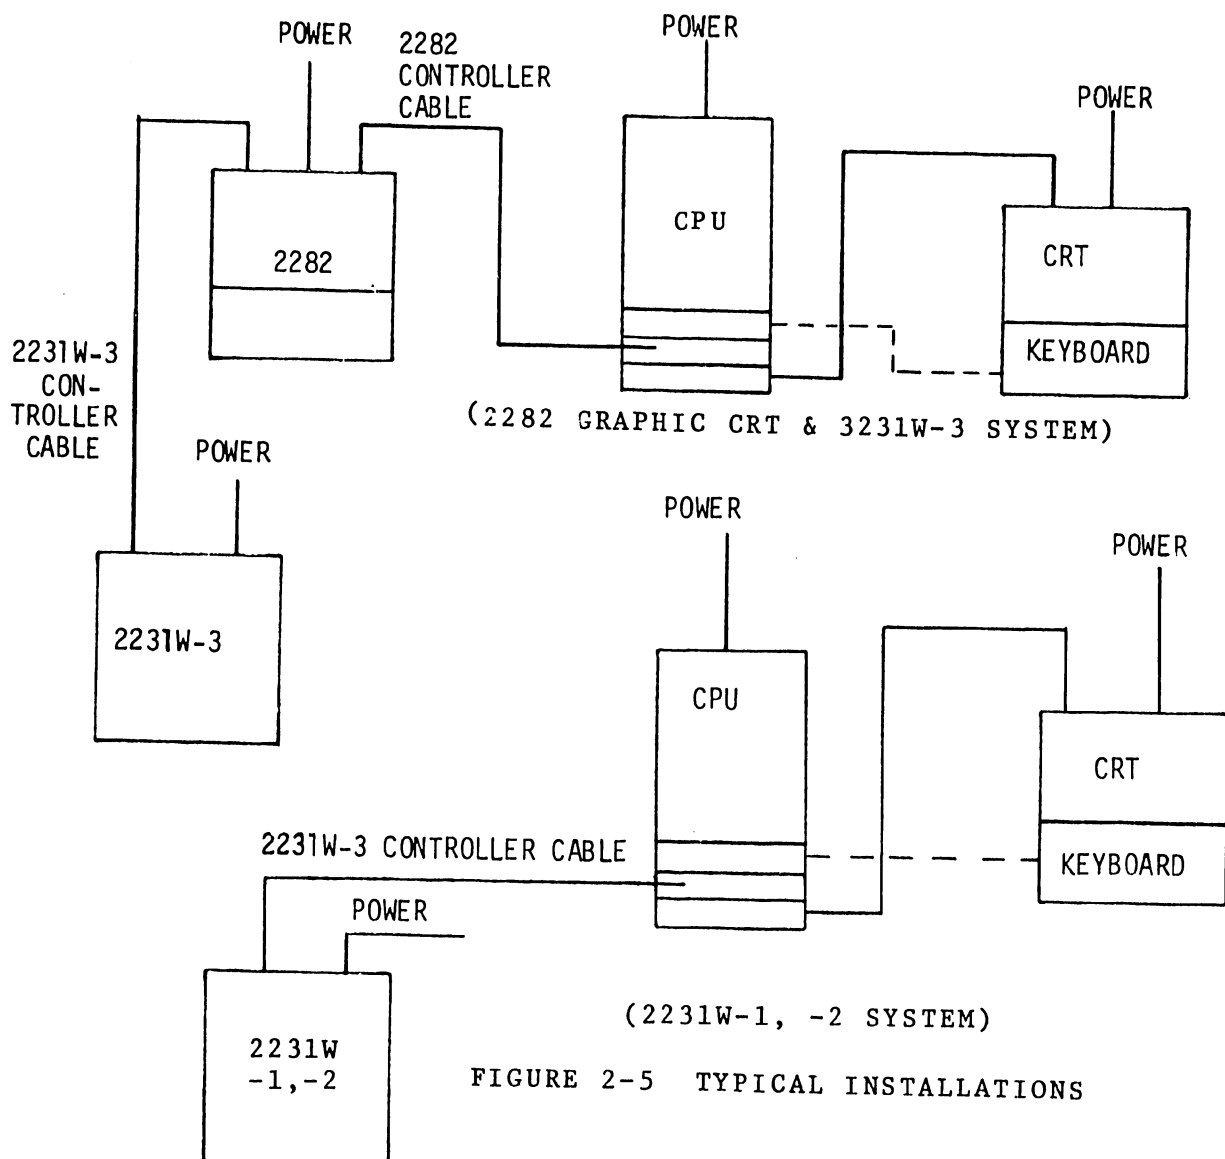

FIGURE 2-5 TYPICAL INSTALLATIONS
- 2) Connect I/O cable from I/O connector on rear of printer to controller in 2200 CPU or 2282 Graphic Terminal. Typical configurations shown in Fig. 2-5.